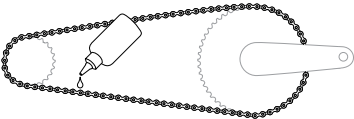

Figure 2.3: Apply lubricant to the bottom of the chain.
**TIP:** Apply the lubricant to the bottom length of the chain and hold a rag under the chain. This will keep the lube from dripping on your chainstay (frame) or wheel and make the process less dirty (Figure 2.3).